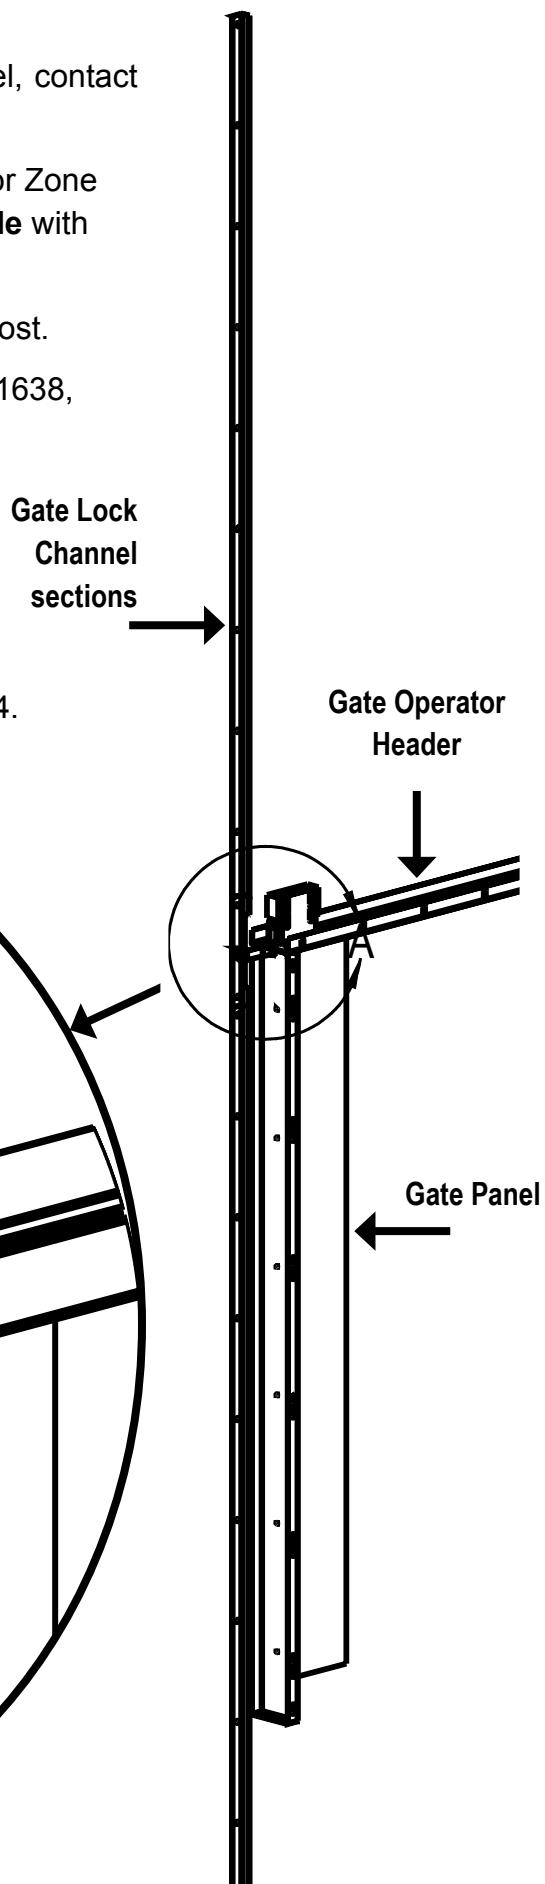

Figure 84 Gate Lock Channel
- 4) Secure the Gate Lock Channel sections to the hoistway on the **gate latching side** with the provided hardware (PN 101186 #14 - 1 1/4"). The Gate Lock Channel must be aligned with the entire length of the hoisway and mated with the Door Zone Block Plate(s). Refer to Figure 84.